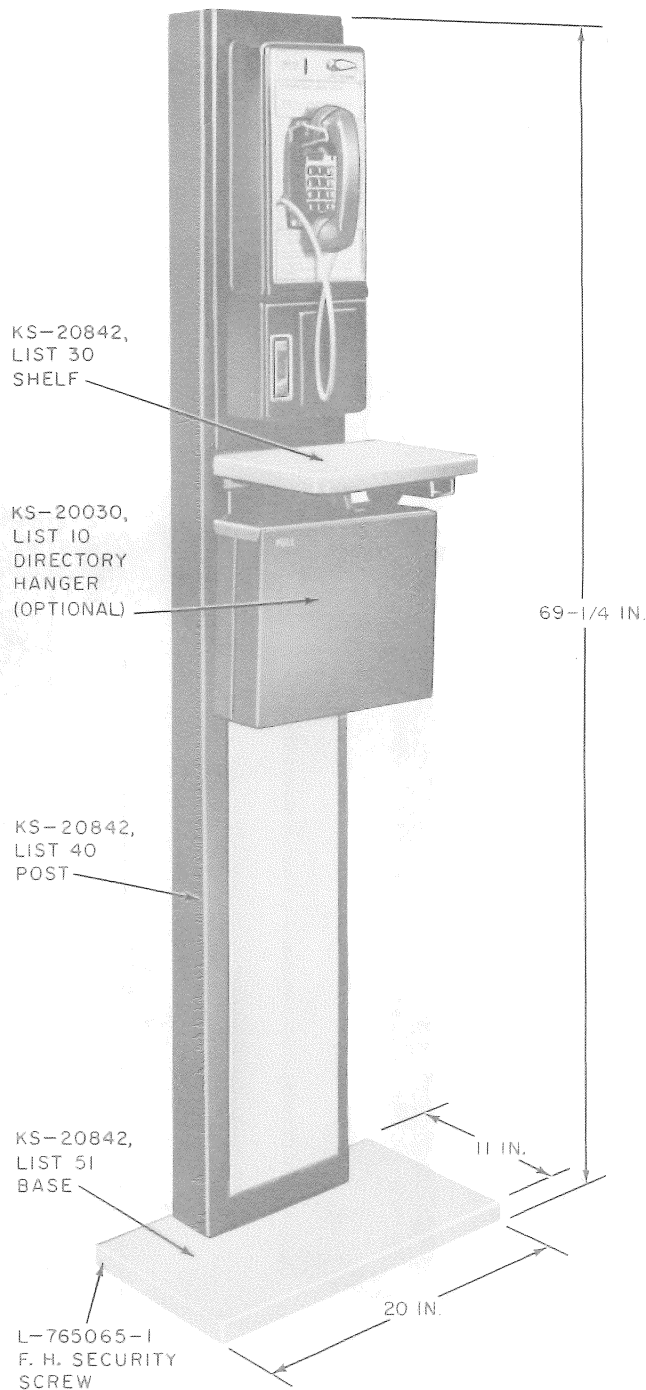
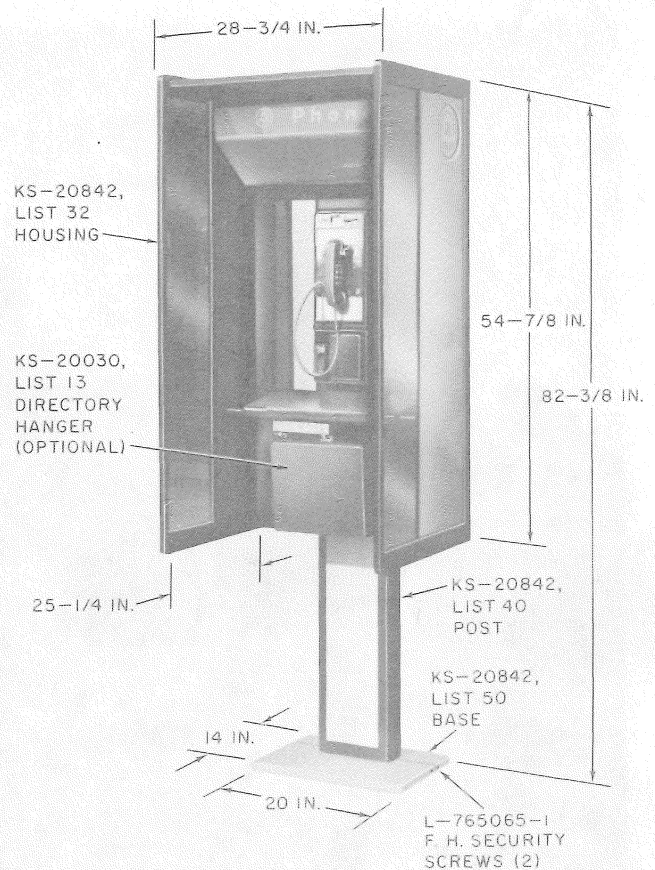

Fig. 2—KS-20842, List 2 (Walk-Up) Telephone Mounting
Fig. 5—KS-20842, List 15 (Walk-In) Telephone Mounting
2.13 The List 51 short base (Fig. 2) is 20 inches long, 11 inches wide, 7/8-inch thick, and weighs approximately 55 pounds. Eight mounting holes are provided for securing the base to a mounting surface. Only one aluminum cover is provided with the short base. The short base is flush with the back of the post and is provided
2.15 The List 30 shelf assembly (Fig. 2) is intended for use with the List 40 (walk-up) post at indoor locations only when the List 31 housing is not provided. Made of stainless steel, the shelf is approximately 13 inches wide, and extends 8-3/4 inches from the post. An optional KS-20030, List 10 directory assembly (Fig. 2) may be attached to the shelf.
2.23 The List 32 housing (Fig. 5) is a more deluxe model housing and is intended for indoor or outdoor walk-in service. The design of this housing limits, unauthorized access to the telephone set, offers some voice privacy and weather protection, and provides a light and sign for the station. The overall dimensions of the housing are 25-1/4 inches deep, 28-3/4 inches wide, and 54-7/8 inches high. The walk-in housing extends 82-7/8 inches above the bottom of the base when installed. The housing is available in two color options (Table A).
2.24 The interior of the housing is acoustically treated with a perforated aluminum sheet, backed by sound absorbent material clad in a protective plastic sheet. The outside of the housing is framed with black anodized aluminum extrusions with aluminum panels on the sides, back, and top of the housing and with transparent (bronze tinted plastic panels) approximately 10 inches wide along the sides at the entrance. A sloped stainless steel writing shelf, open at both ends and back is located below the telephone set. An optional KS-20030, List 12 or 13 hanger and directory assembly may be attached to the shelf (Fig. 5).
2.38 An optional hanger and directory assembly may be installed with each of these telephone mountings. The List 30 shelf and a List 31 housing will accept a KS-20030, List 10 assembly (Fig. 2) and the List 32 housings a KS-20030, List 12 or 13 assembly (Fig. 5).